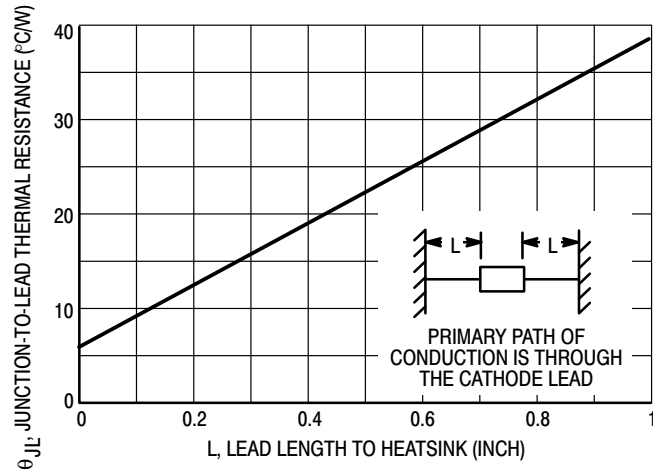
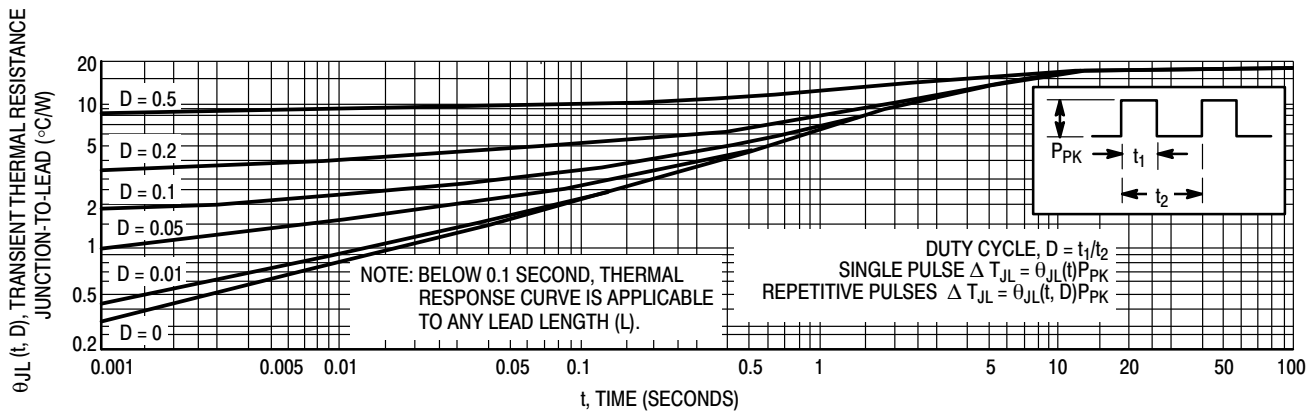
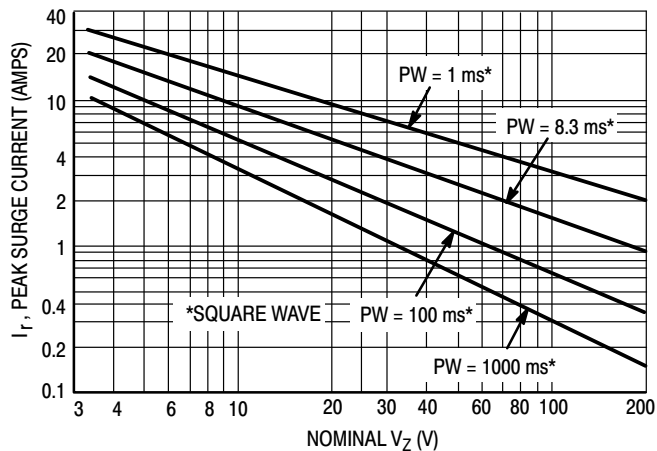
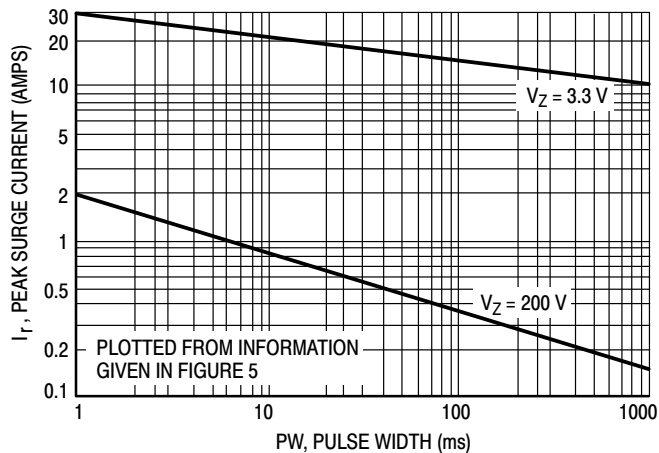

Figure 1. Typical Thermal Resistance
Figure 4. Typical Thermal Response
Figure 5. Maximum Non-Repetitive Surge Current
Figure 6. Peak Surge Current versus Pulse Width
- SURGE CURRENT (I_R):** Surge current is specified as the maximum allowable peak, non-recurrent square-wave current with a pulse width, PW, of 8.3 ms. The data given in Figure 5 may be used to find the maximum surge current for a square wave of any pulse width between 1 ms and 1000 ms by plotting the applicable points on logarithmic paper. Examples of this, using the 3.3 V and 200 V zener are shown in Figure 6. Mounting contact located as specified in Note 2 ($T_A = 25^\circ\text{C} + 8^\circ\text{C}, -2^\circ\text{C}$).
8. **SURGE CURRENT (I_P):** Surge current is specified as the maximum allowable peak, non-recurrent square-wave current with a pulse width, PW, of 8.3 ms. The data given in Figure 5 may be used to find the maximum surge current for a square wave of any pulse width between 1 ms and 1000 ms by plotting the applicable points on logarithmic paper. Examples of this, using the 3.3 V and 200 V zener are shown in Figure 6. Mounting contact located as specified in Note 7 (T_A = 25°C +8°C, -2°C).
ΔT_{JL} is the increase in junction temperature above the lead temperature and may be found from Figure 4 for a train of power pulses or from Figure 1 for dc power.
Data of Figure 4 should not be used to compute surge capability. Surge limitations are given in Figure 5. They are lower than would be expected by considering only junction temperature, as current crowding effects cause temperatures to be extremely high in small spots resulting in device degradation should the limits of Figure 5 be exceeded.